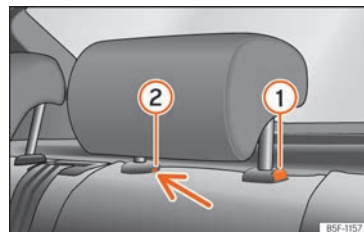

Fig. 78 Rear head restraint: removal.
- Press button >>> Fig. 78 ①, while simultaneously pressing on the safety hole ② with a flat screwdriver a maximum of 5 mm wide, and remove the headrest.